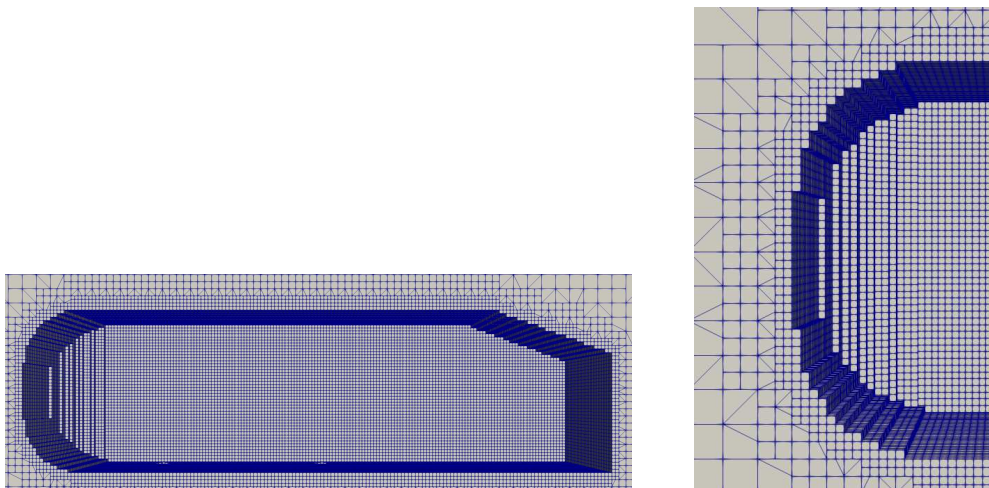

Figure 2.10: Castellated mesh
- 6) Replace the default “Feature Angle” by a value lower than 20 (19, 18, 17, .....,2) and click apply to show the missing edge as show in figure 2.10.
The “castellatedMesh” refines the background mesh close to the features and surfaces which enables easy snapping (figure 2.10). The sizes defined in here are relative to the background mesh (in this case, blockMesh created in section 2.1.1).